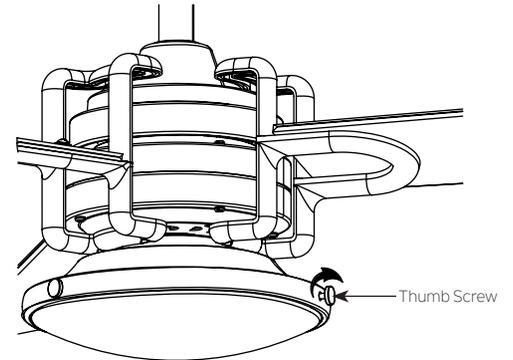

Fig. 24
Step 5. Securely tighten with 3 thumb screws only by hand to avoid damaging the glass. (Fig. 24)